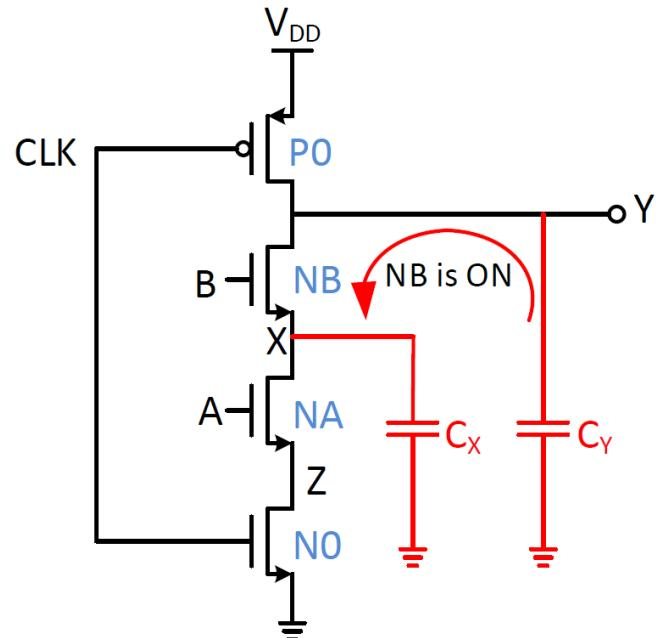
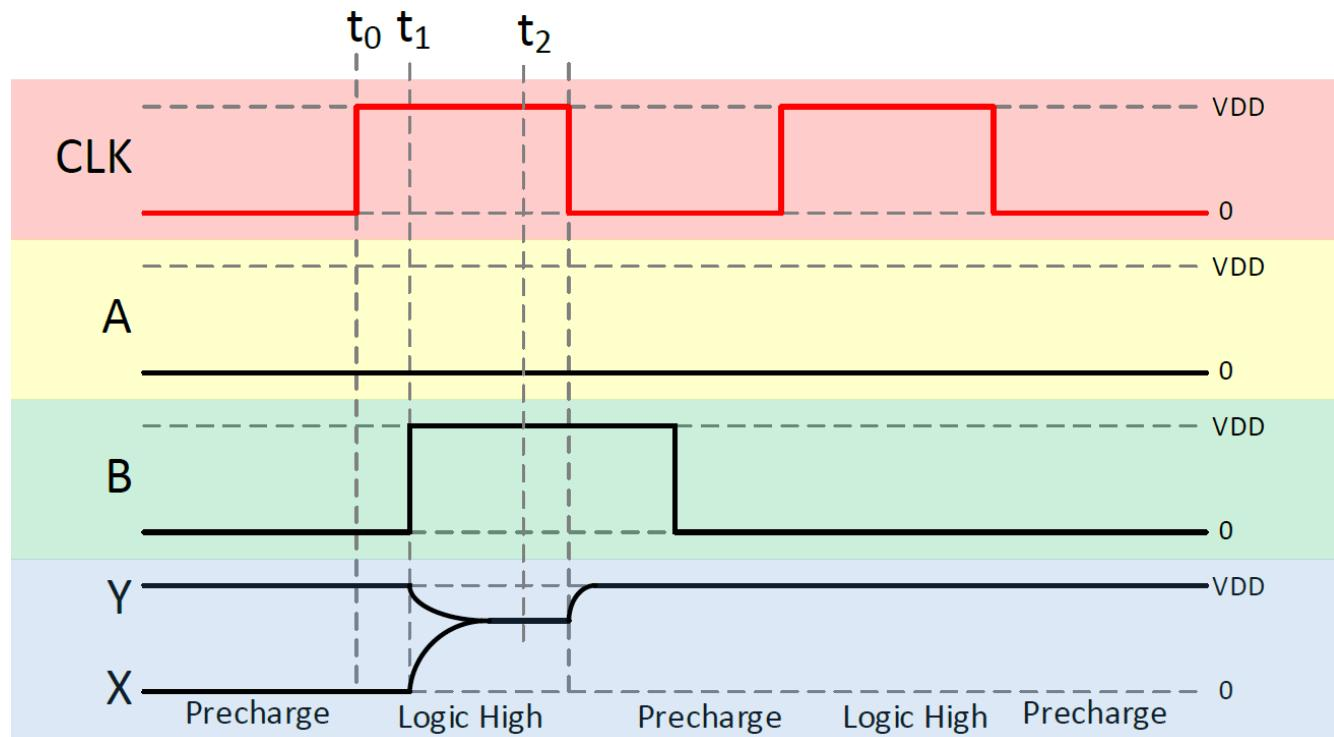
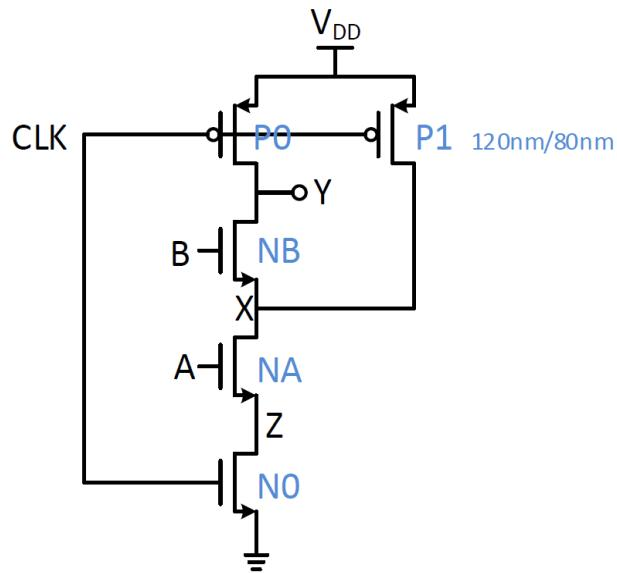

Figure 3: Illustration of the **charge sharing** problem
Figure 4: Signal flow diagram for the dynamic NAND gate of Figure 1 and 3
Figure 5: Dynamic NAND Gate with pull-up devices at all nodes
According to the working principle of a dynamic gate, the output node is charged during the precharge phase. During the evaluate phase, the pull-up device is OFF. By observing the schematic on Figure 3 and the corresponding signal diagram on Figure 4, it can be seen that starting with time  $t_0$ , the output node behaves as a precharged floating capacitor. If the output node is shorted at some time ( $t_1$ ) to another capacitive node (X), the charge at the output node (Y) is shared between the X and Y nodes. This might result in wrong evaluation of the data as it propagates in the circuit. The solution is to charge all the floating nodes in the network as shown in Figure 5 by adding necessary pull-up devices. However, the additional device increases the parasitic capacitance of the gate and the need to discharge the X node will increase delay time. Note that for the Z node no precharge device is needed since it will be automatically shorted to the ground node during the evaluation phase.
Estimate the values of the parasitic capacitors  $C_X$  and  $C_Y$  which are on Figure 3. Note that  $C_X$  and  $C_Y$  are the intrinsic capacitances of the dynamic NAND gate and capacitor  $C_L$  is external parameter.
Open the schematic view of the NAND gate and insert a pull-up device for the X node as shown on Figure 5. Redo the simulation with **C\_L** = 1f. Do you observe the true functionality now? What can be the reason of the increase on the delay time?